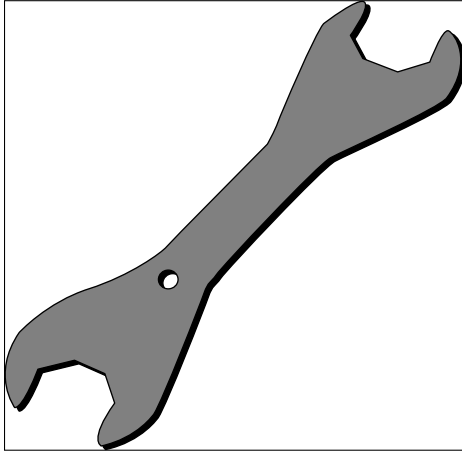

Figure 3-12:
- ✔ **Headset tool (see Figure 3-12):** To work on the headset, you need two large, flat, open-ended wrenches. These come in different sizes, so be sure to check the owner's manual and buy ones that fit your headset.